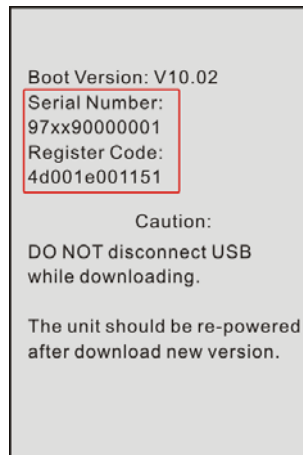

Figure 7-8
3. Press [OK] to configure this tool as a USB device. See figure 7-8.